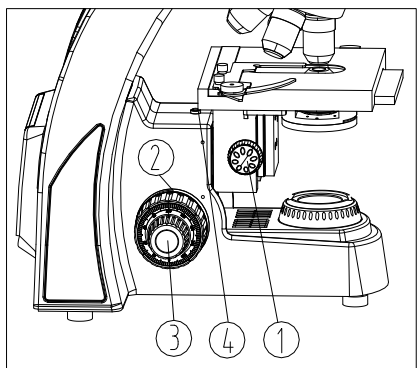

Fig. 9
1. Rotate the condenser up-down knob (1) according to the direction shown in the figure, to raise it to the highest position.
3. Observe the right eyepiece with right eye, rotate the coarse focusing knob (2) until the specimen outline appears in the view field (see Fig. 9).
4. Rotate the fine focusing knob (3) for clear details.